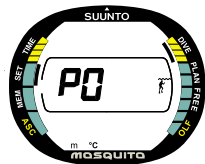

Fig. 4.15. Setting Personal Adjustment.
5. While the personal adjustment digits are selected (blinking), press + or - to change the Personal Adjustment Mode (Fig. 4.15.).